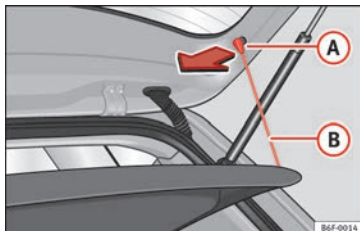

Fig. 163 In the luggage compartment: removing and installing the rear shelf.
- Detach the cord loops »» **Fig. 163** **B** from their hooks **A**.
- Hook the loops »» **Fig. 163** **B** to the rear lid.